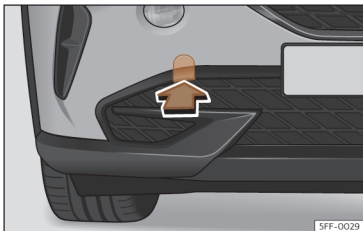

Fig. 44 On the right side of the front bumper: remove the cover.
The housing of the screw towing eye is on the right side of the front bumper behind a lid»» **Fig. 44**.
- Remove the cover by pressing down on its base and leave it hanging from the vehicle »» **Fig. 44**.